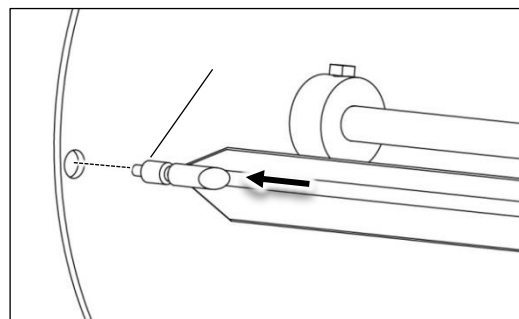

Figure 4-6
1. As indicated in Figure 4-6 insert the pointed end of the skewer into a hole in the plate on left side of rotisserie.